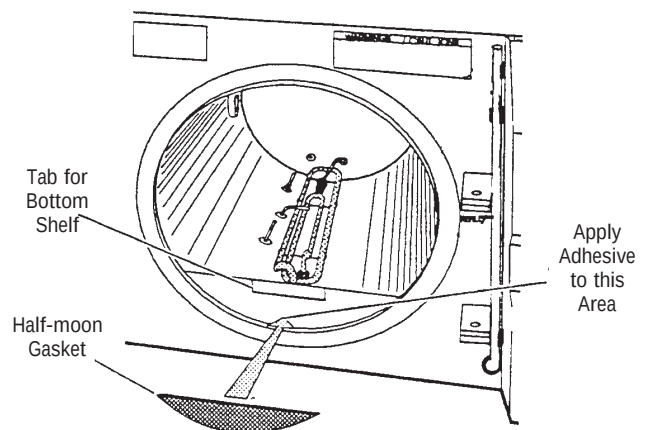

**Figure 5-10**
2. Apply a thin layer of adhesive to the chamber wall, as shown in Figure 5-10. Apply the adhesive in the same pattern as the old adhesive on the old gasket. Leave a bare area in the middle of the gasket so that the tab for the bottom shelf does not get any adhesive on it (see Figure 5-10).